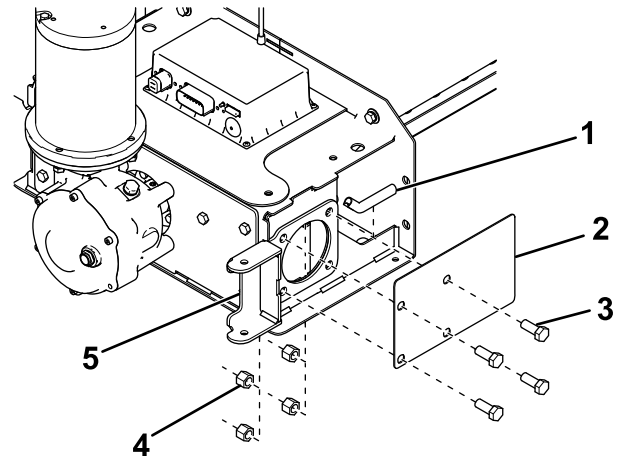

Figure 15
4. If you have a pintle chain Forge 2.0 spreader, continue to step 7. For auger Forge 2.0 spreaders, remove and retain the 4 bolts and nuts securing the right spinner-assembly pin-lock and auger sideplate to the auger assembly (Figure 15).
5. Slide 1 of the edge covers onto the opening in the auger assembly (Figure 15).